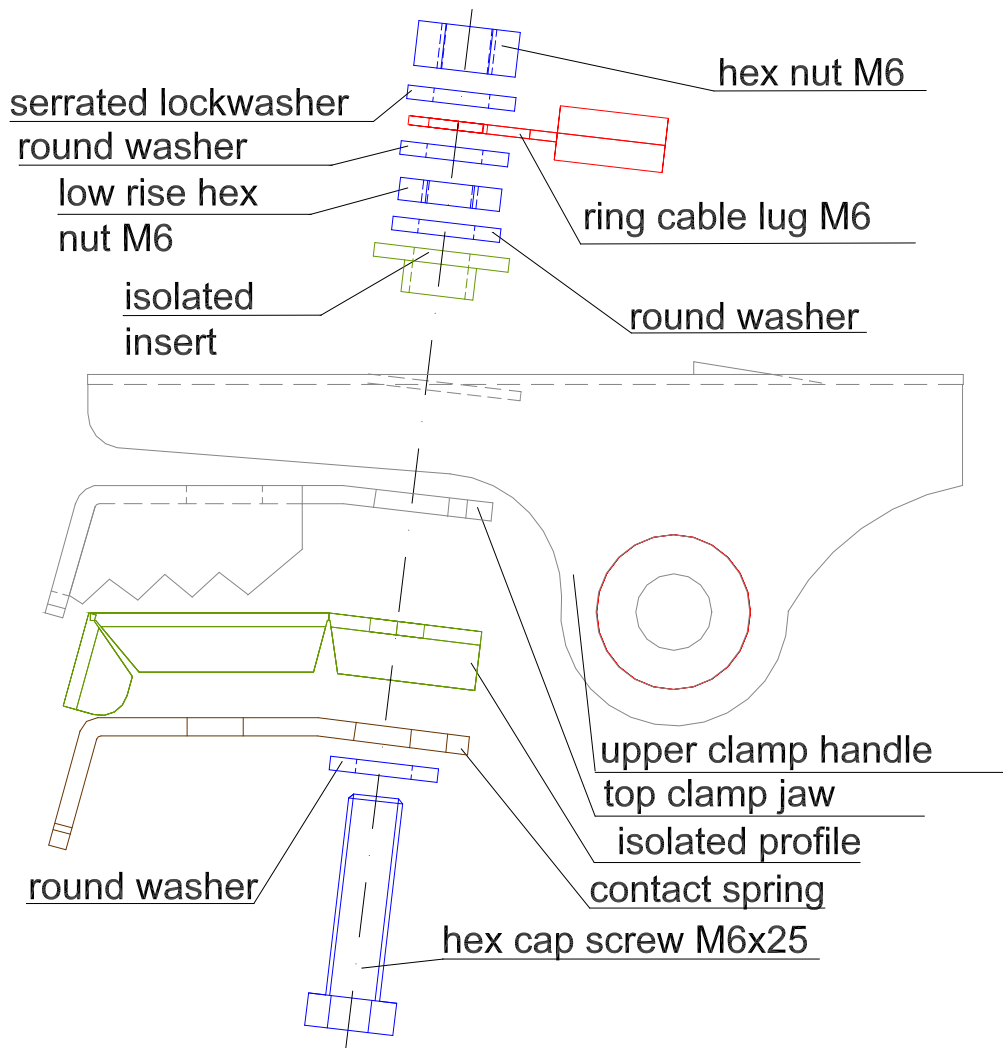

Figure 3: Connection of the inner contact spring
Step 6: Push the rubber sheath from behind over the clamp up to the connection screw (fig. 3).